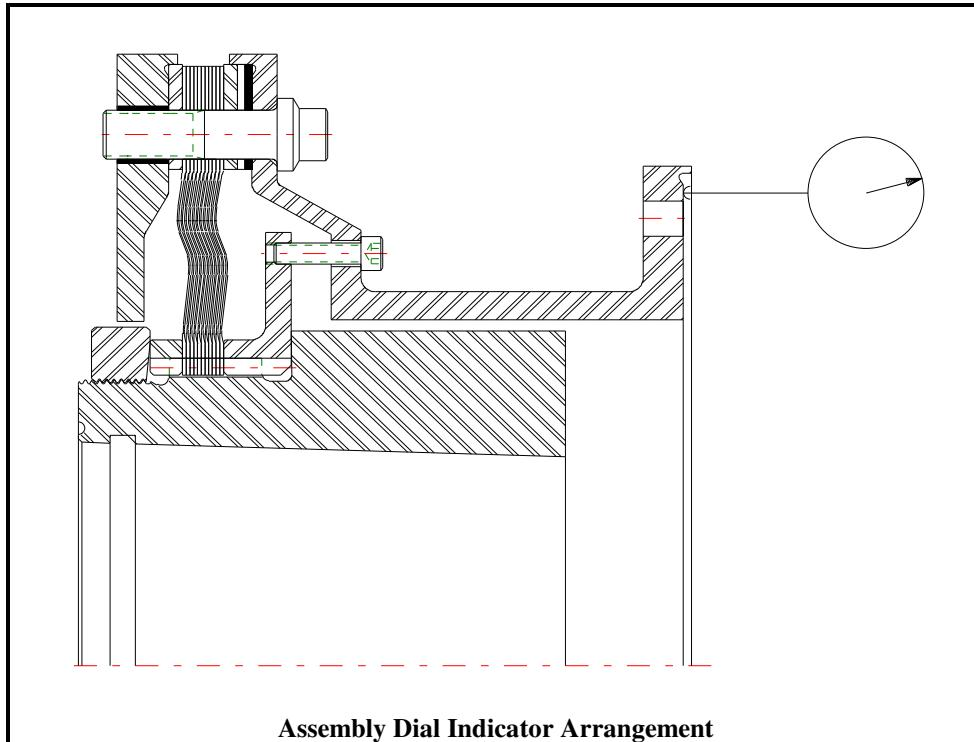

Figure 5-1
5.2.3 Tighten the shipping hardware evenly to draw-up the pack adapter on the overspeed trip end only to the dimensions specified on the Ameridrives Sales Drawing. The use of two (2) dial indicators at  $180^\circ$  apart (see Figure 5-1) or determining the number of screw turns required based on thread pitch (see Table 5-1) are common ways of measuring draw-up.